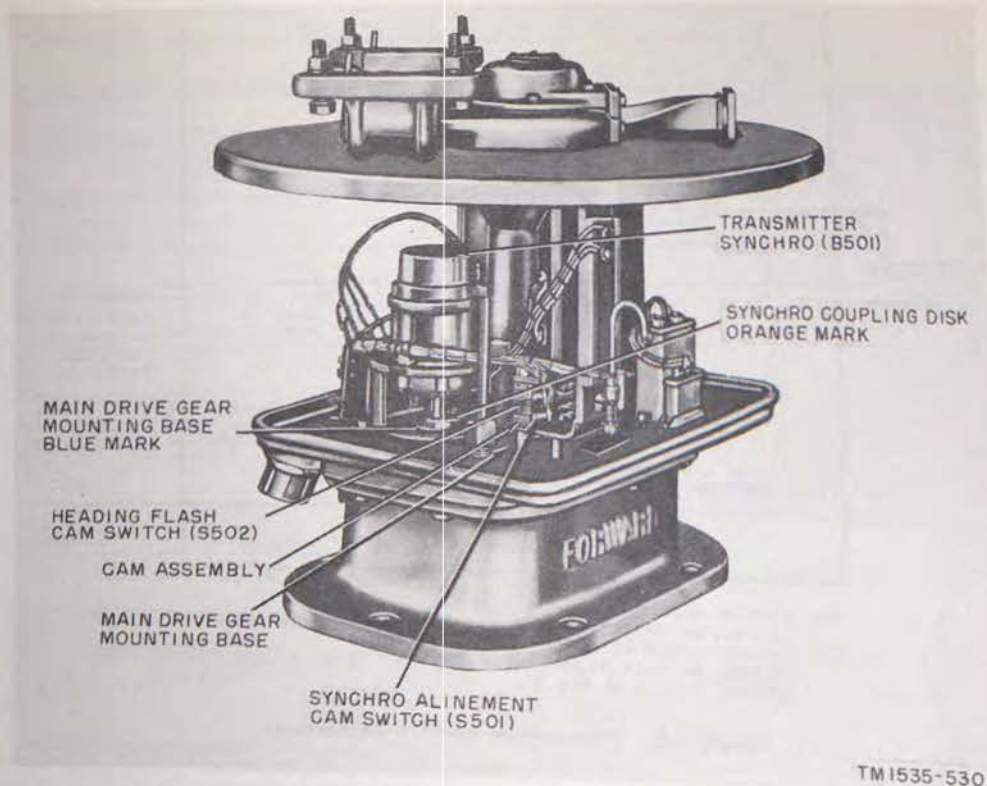

Figure 157. Antenna pedestal, front view.
- e. Focus coil hex. nuts (3), for sweep centering, are located around the focus coil.
- f. Synchro alinement cam switch S501 is located in the antenna pedestal (fig. 157).
h. Heading flash cam switch S502 is located in the antenna pedestal (fig. 157).
- (3) Place antenna motor switch S503 in the OFF position.
- (4) Rotate the antenna horn *clockwise* by manually tuning antenna drive motor B502. Stop the antenna horn at 168°. This position is indicated by the matching of the orange mark on the side of the synchro coupling disk with the orange mark on the main drive gear mounting base of the antenna pedestal (fig. 157).
- (5) Loosen the two setscrews on the synchro alinement cam (fig. 157).
- (6) Remove the external lead connected to terminal 8 of terminal board TB501.
- (7) Connect an ohmmeter across terminals 8 and 13 of terminal board TB501. In this position the ohmmeter reads the resistance across the contacts of synchro alinement cam switch S501.
- (8) If the meter reads infinity, rotate the cam in a clockwise direction until the meter reads zero.
- (9) With the aid of a screwdriver gently rotate the cam counterclockwise until the ohmmeter suddenly switches to infinity;